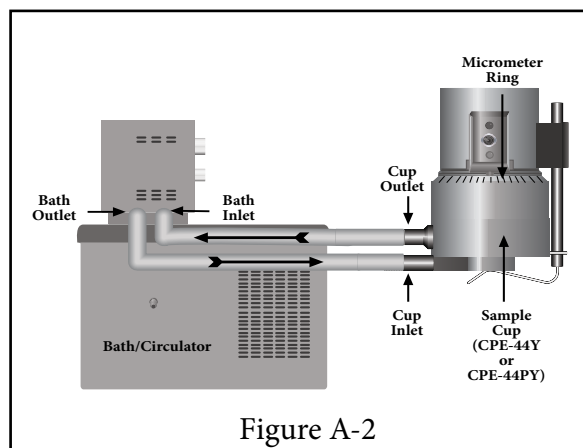

Figure A-2
2. **Figure A-2** shows a typical water bath setup. Connect the sample cup inlet/outlet ports to the water bath inlet and outlet and set the bath to the desired test temperature. Allow sufficient time for the bath to reach the test temperature. The temperature range of the Sample Cup (CPE-44Y or CPE-44PY) is 0°-100°C. Brookfield recommends a maximum temperature of 80°C to allow for direct hand contact for adjustment of the micrometer ring. When using the sample cup at temperatures near 0°C, be careful to avoid frost buildup on the top surface of the cup; this could prevent a proper fit with the micrometer ring. Please refer to the bath manual for the proper selection of bath fluid and tubing to ensure safe and proper operation.